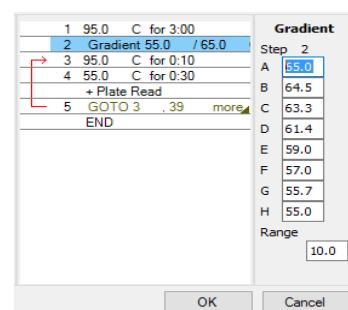

Figure 4. Gradient step in protocol edit menu
- 4.7.5.1. User can set a range (10 degrees in figure 4) and then system will auto calculate increments based off this desired range and starting temperature.